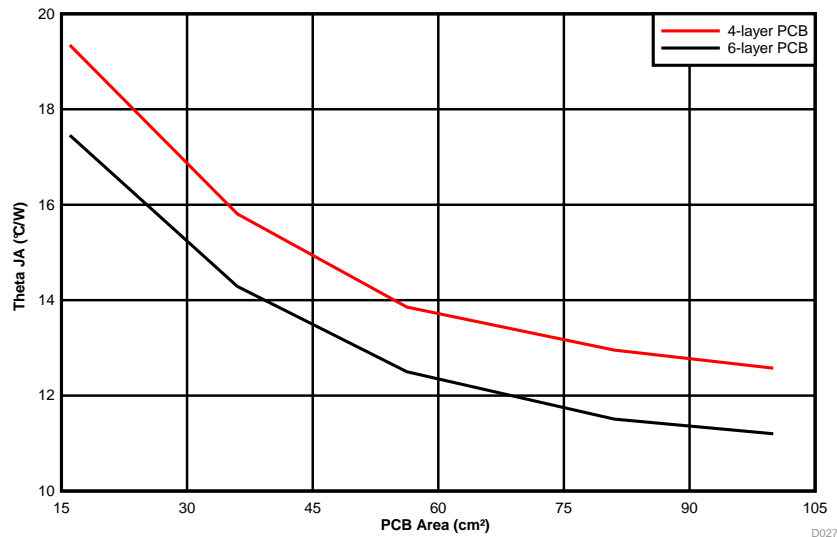

图 48. θ_{JA} vs PCB Area
The amount of PCB copper effects the thermal performance of the device. 图 48 shows the effects of copper area on the junction-to-ambient thermal resistance ($R_{\theta JA}$) of the LMZM33606. The junction-to-ambient thermal resistance is plotted for a 4-layer PCB and a 6-layer PCB with PCB area from 16 cm² to 100 cm².
3. Reference 图 48 to determine the minimum required PCB area for the application conditions.